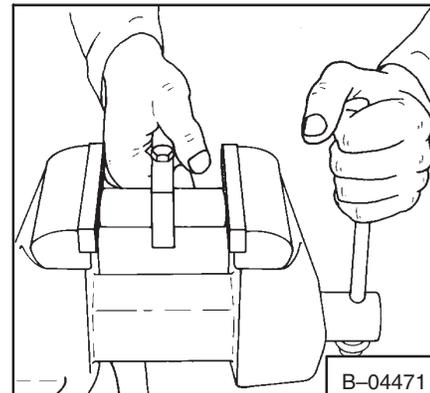

Fig. 3-19 Installing Bushings
3. Install the new rubber bushing using two sockets and a vise (Fig. 3-19).